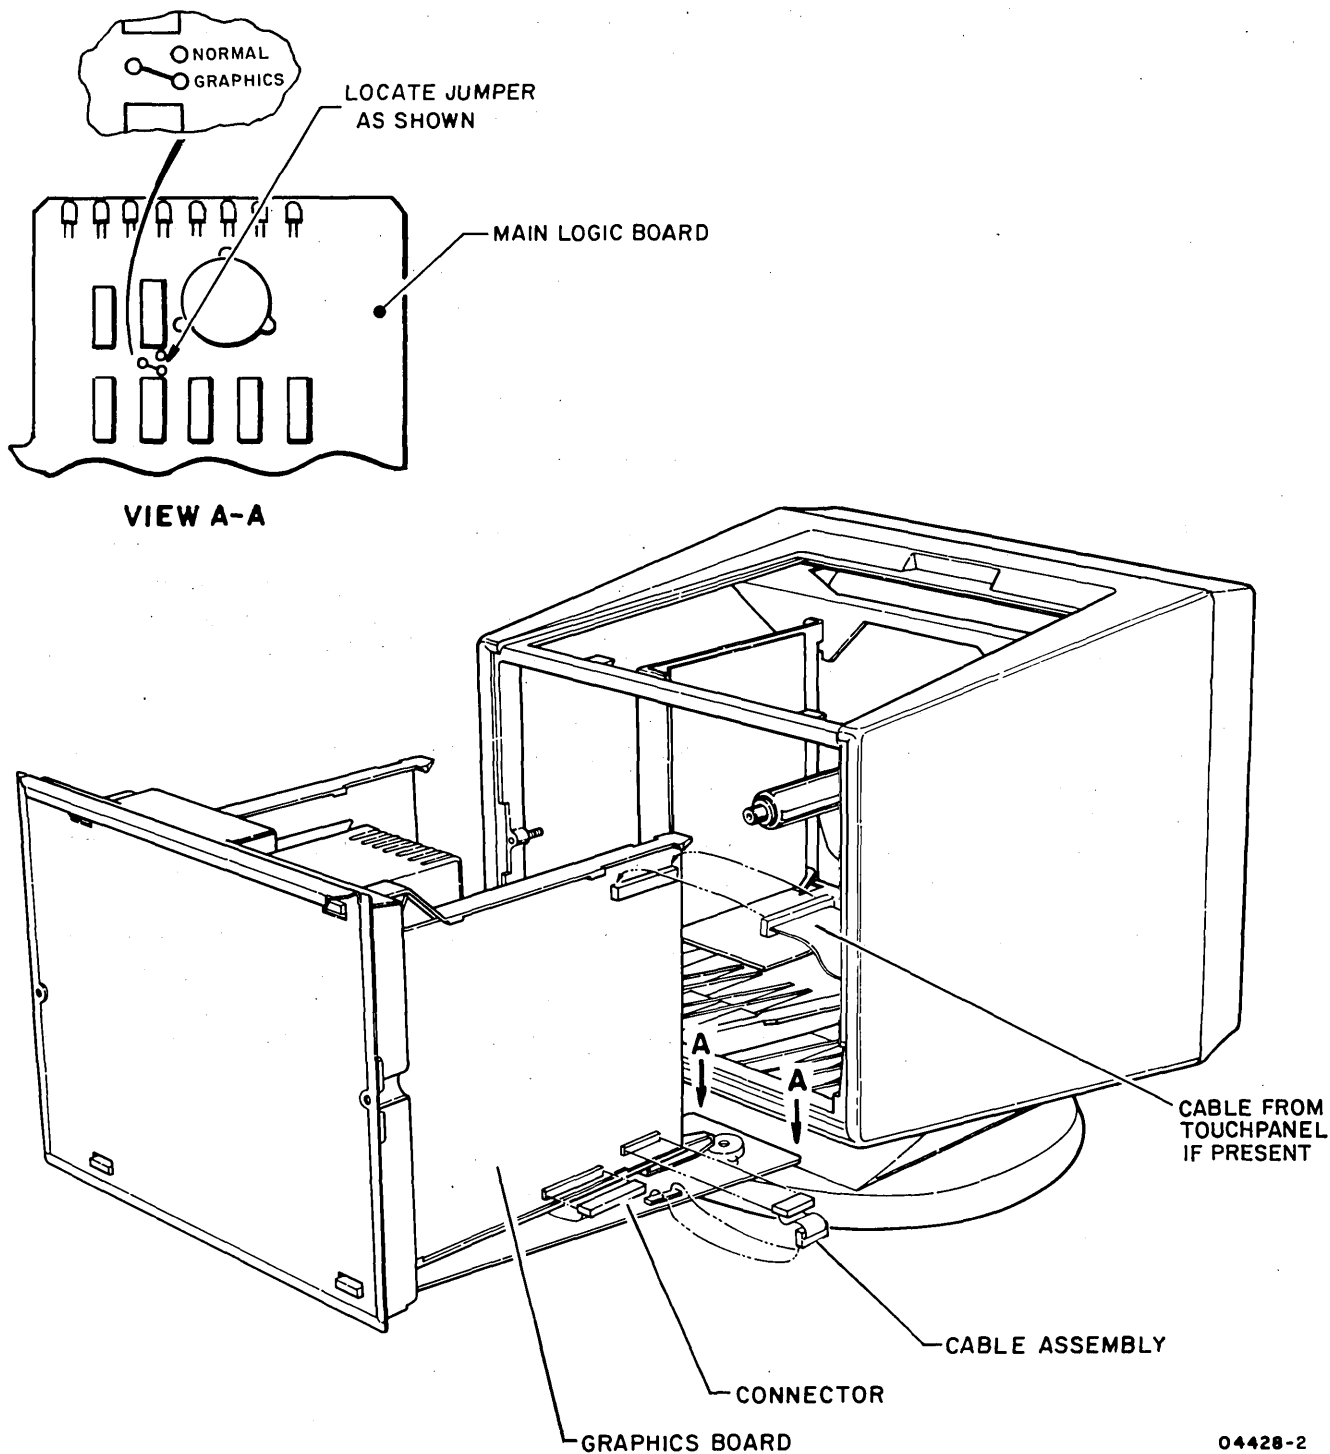

Figure 3-4. Dot Graphics Board Installation
5. Install the graphics board in the I/F 5 slot as shown in figure 3-4, placing board on card guides with component side facing out. Slide board towards backpanel until top card guide locks in place.
8. Move jumper at location A-17 on main logic board from the NORMAL position to the GRAPHICS position (figure 3-4).